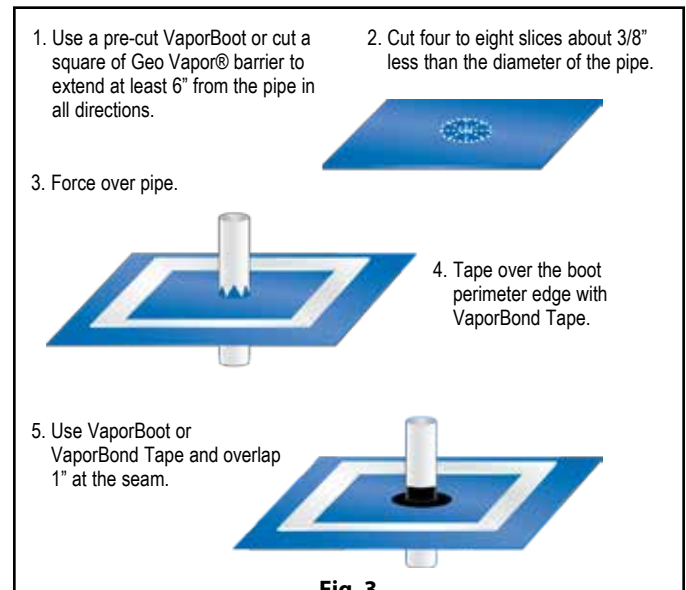

Fig. 3
- 1.4. Seal around all plumbing, conduit, support columns or other penetrations that come through the **Geo Vapor®** membrane. The VaporBoot Pipe Boot System is the recommended sealing method. (Includes 25 pre-cut Geo Vapor® pipe boots along with 1 roll of VaporBoot Tape). (Fig. 3 & 4)
Pipe boots may also be fabricated from excess **Geo Vapor®** membrane (Fig. 3 & 4) and sealed with VaporBoot Tape or VaporBond Tape (sold separately).
To fabricate pipe boots from **Geo Vapor®** excess material (see Fig. 3 & 4 for A-E):
- E) Complete the process by taping over the boot perimeter edge with VaporBond Tape to create a monolithic membrane between the surface of the slab and moisture sources below and at the slab perimeter. (Fig. 3 & 4)